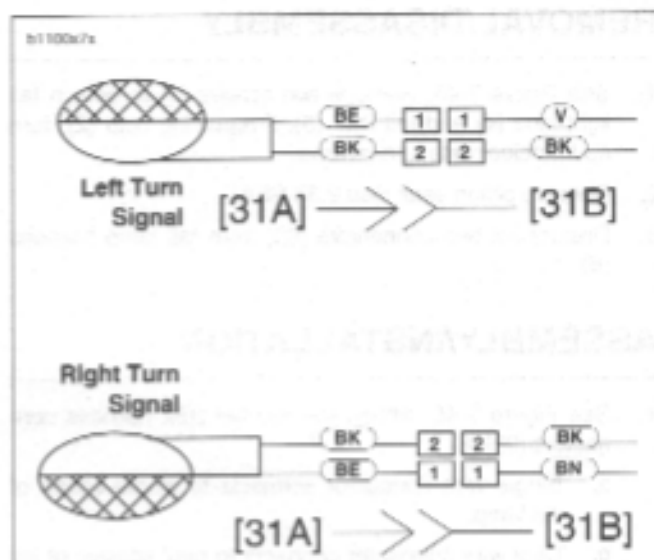
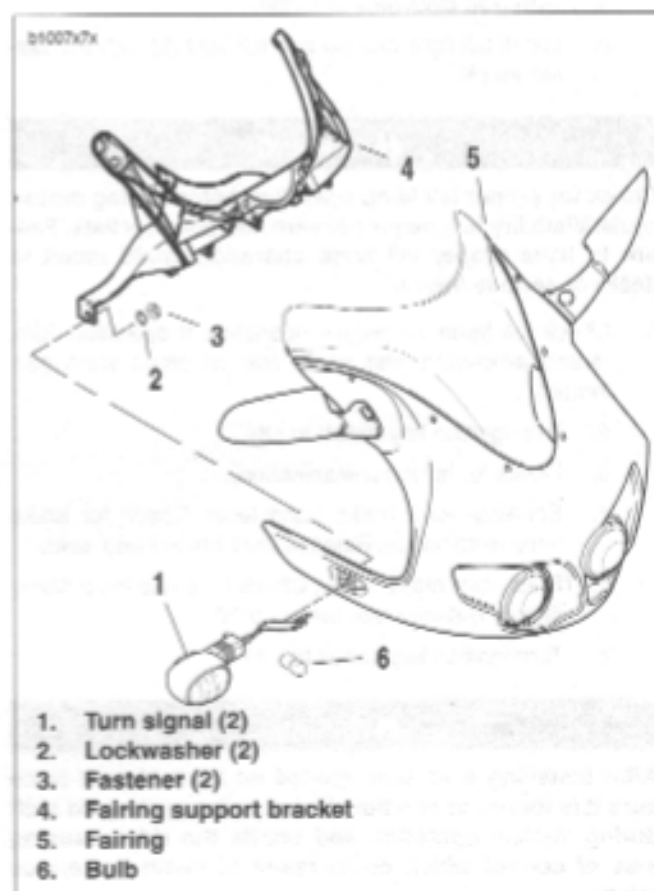

Figure 7-46. Front Turn Signal Connections
Figure 7-47. Front Turn Signals
1. See Figure 7-46. Disconnect bullet connectors on turn signal wires.
2. See Figure 7-47. Remove fastener (3) and lockwasher (2) from fairing support bracket (4).
3. Pull bullet connectors and wiring through hole in fairing support bracket (4) and fairing (5).
1. See Figure 7-47. Insert bullet connectors and wiring through hole in fairing (5) and fairing support bracket (4).
2. Install turn signal (1) using lockwasher (2) and fastener (3). Tighten fastener to 25-28 in-lbs (2.8-3.2 Nm).
3. Attach bullet connectors on turn signal wires as shown in Figure 7-46.